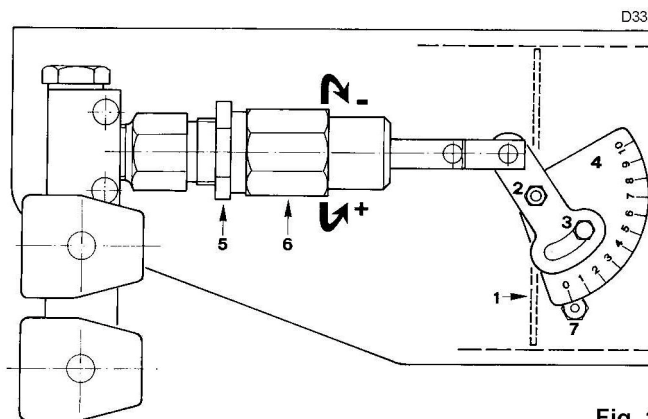

Fig. 19
The air gate valve 1)(Fig 19) is set using the indexed selector 4)(Fig 19)
Loosen the screw 3)(Fig 19) and the nut 2)(Fig 19) and shift the indexed selector 4) so that the index finger 7)(Fig 19) corresponds to the required notch setting indicated in Table (I) according to the 1st stage nozzle's delivery.
The air gate valve 1)(Fig 19) must be set using the cylinder 6)(Fig 19). This setting must be adapted case by case to the burner's delivery and combustion chamber pressure. The first time the burner is fired, the hydraulic cylinder setting should be left as originally set by the manufacturer: at approximately half of its full stroke.